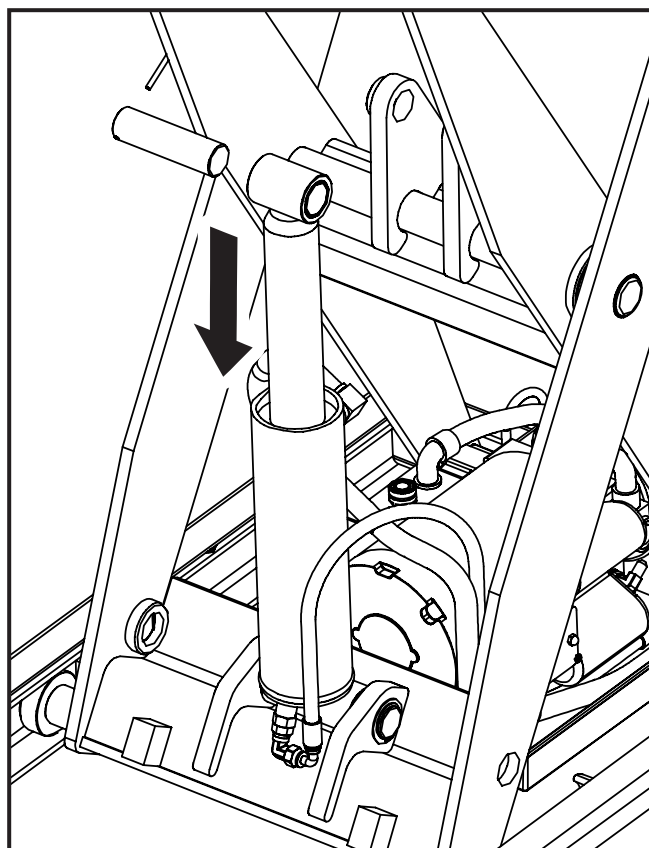

Figure 11 - Cylinder Hydraulic Fluid Removal Detail
4. The old hydraulic fluid must now be removed from the cylinder(s). As detailed in Figure 11, place the end of the pressure line and the end of the reservoir return line in the pan.